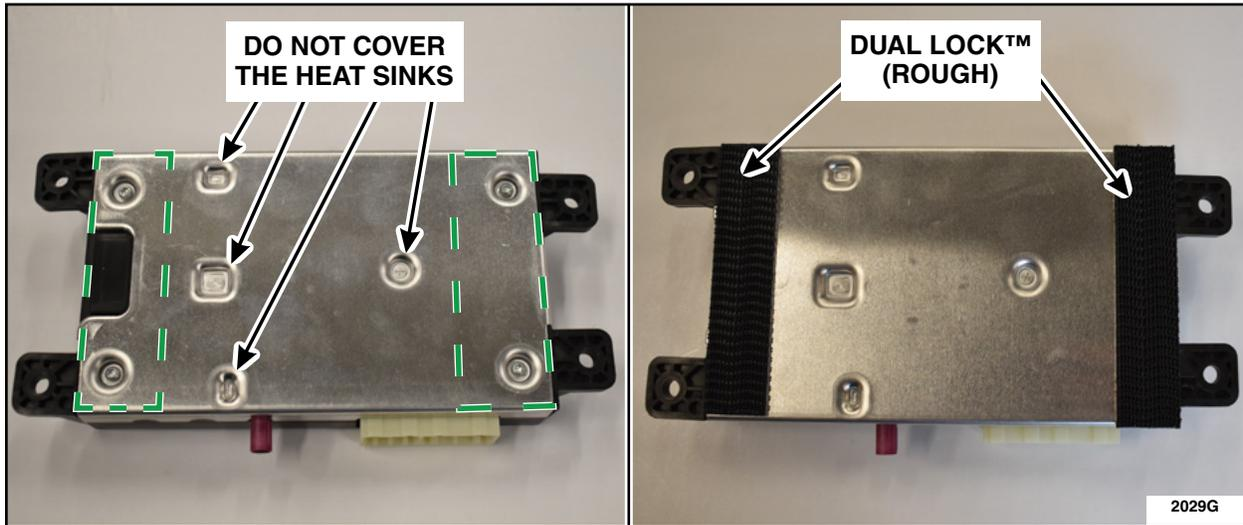

FIGURE 5
8.TCU Preparation. See Figure 5.